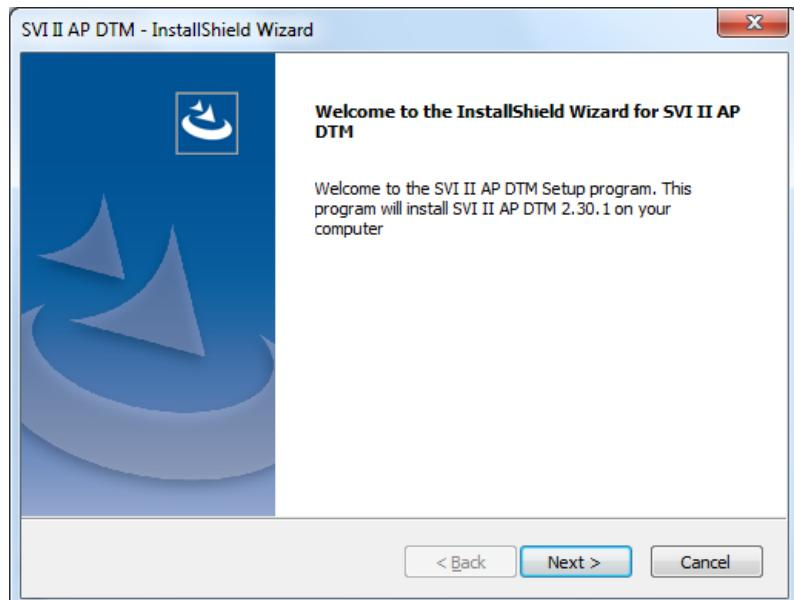

Figure 16 SVI II AP Advanced DTM Install Welcome Screen
1. Double-click **SVI II AP DTM Installer.exe** and Figure 16 appears.